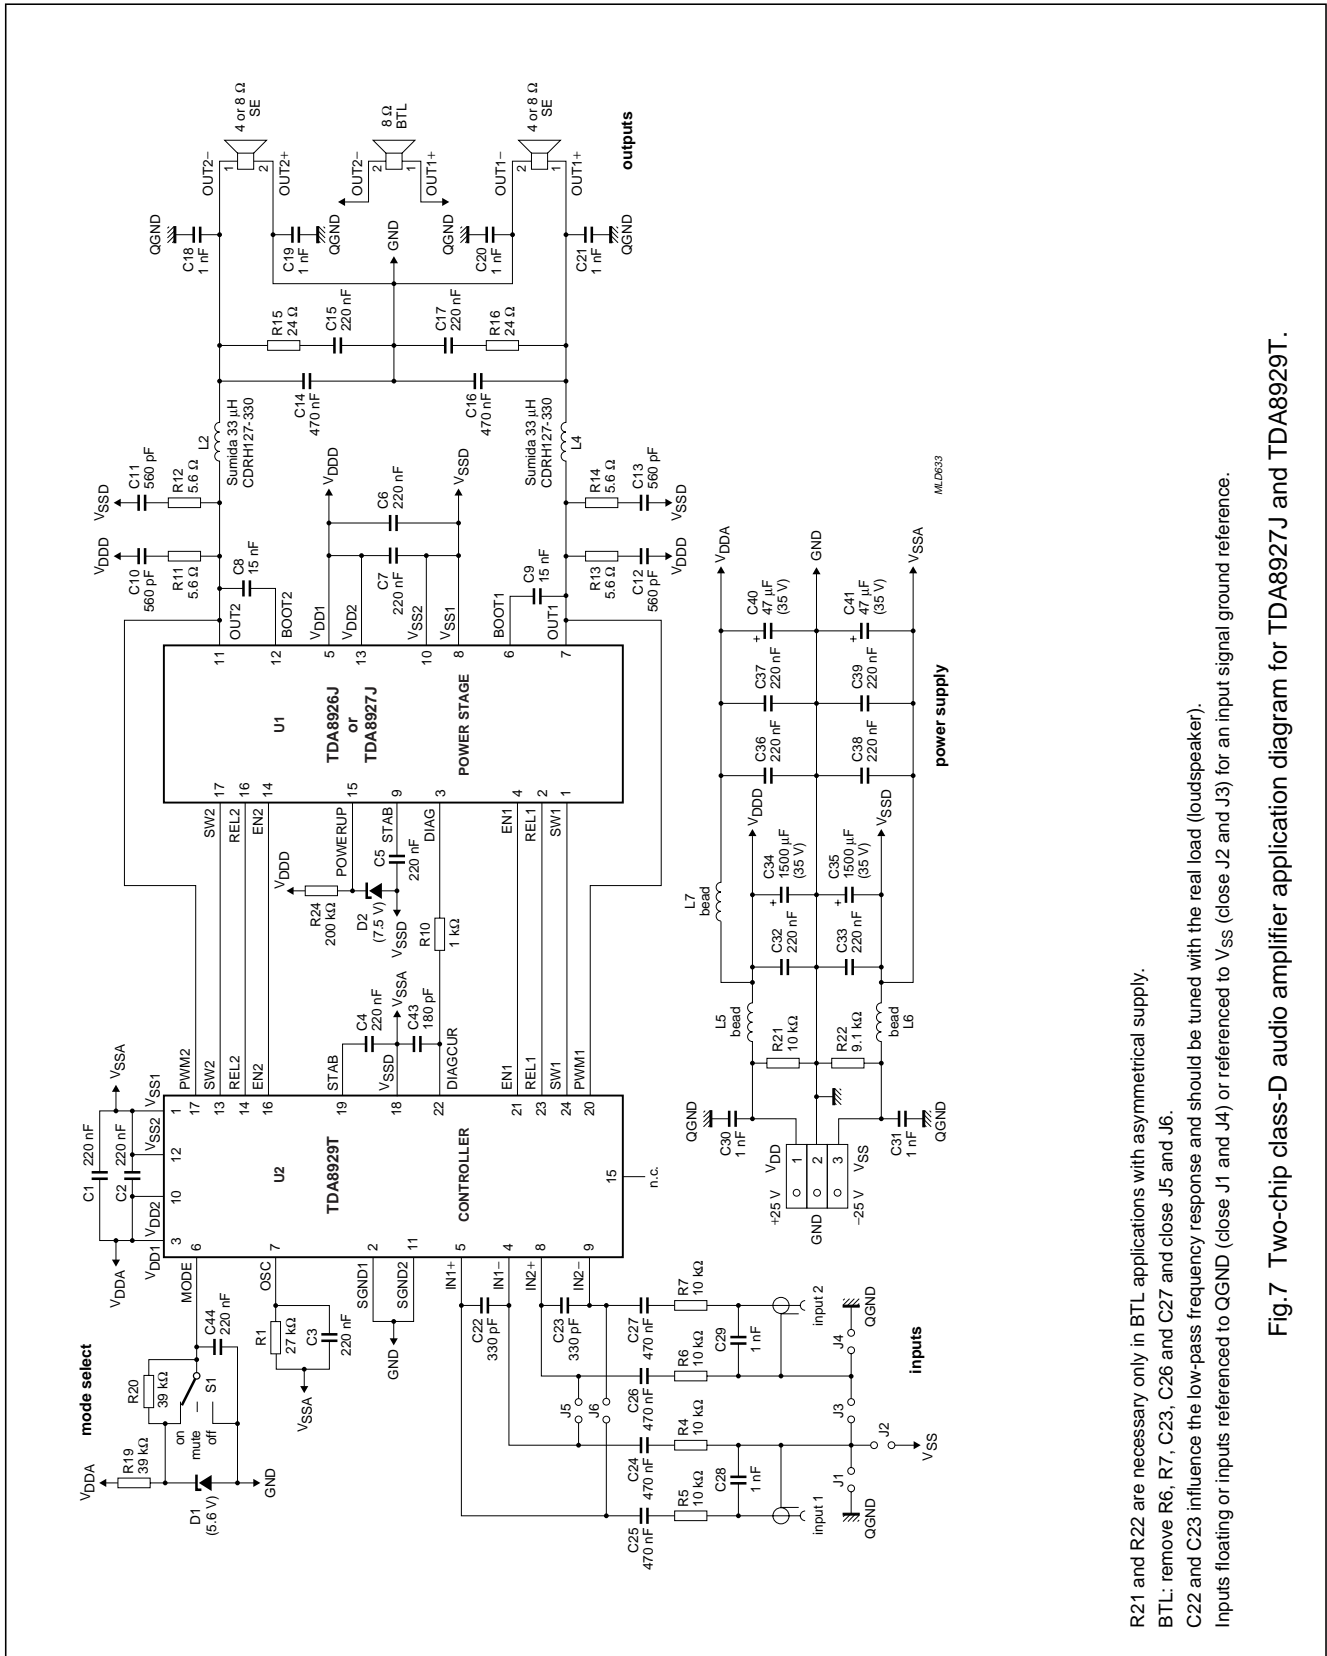
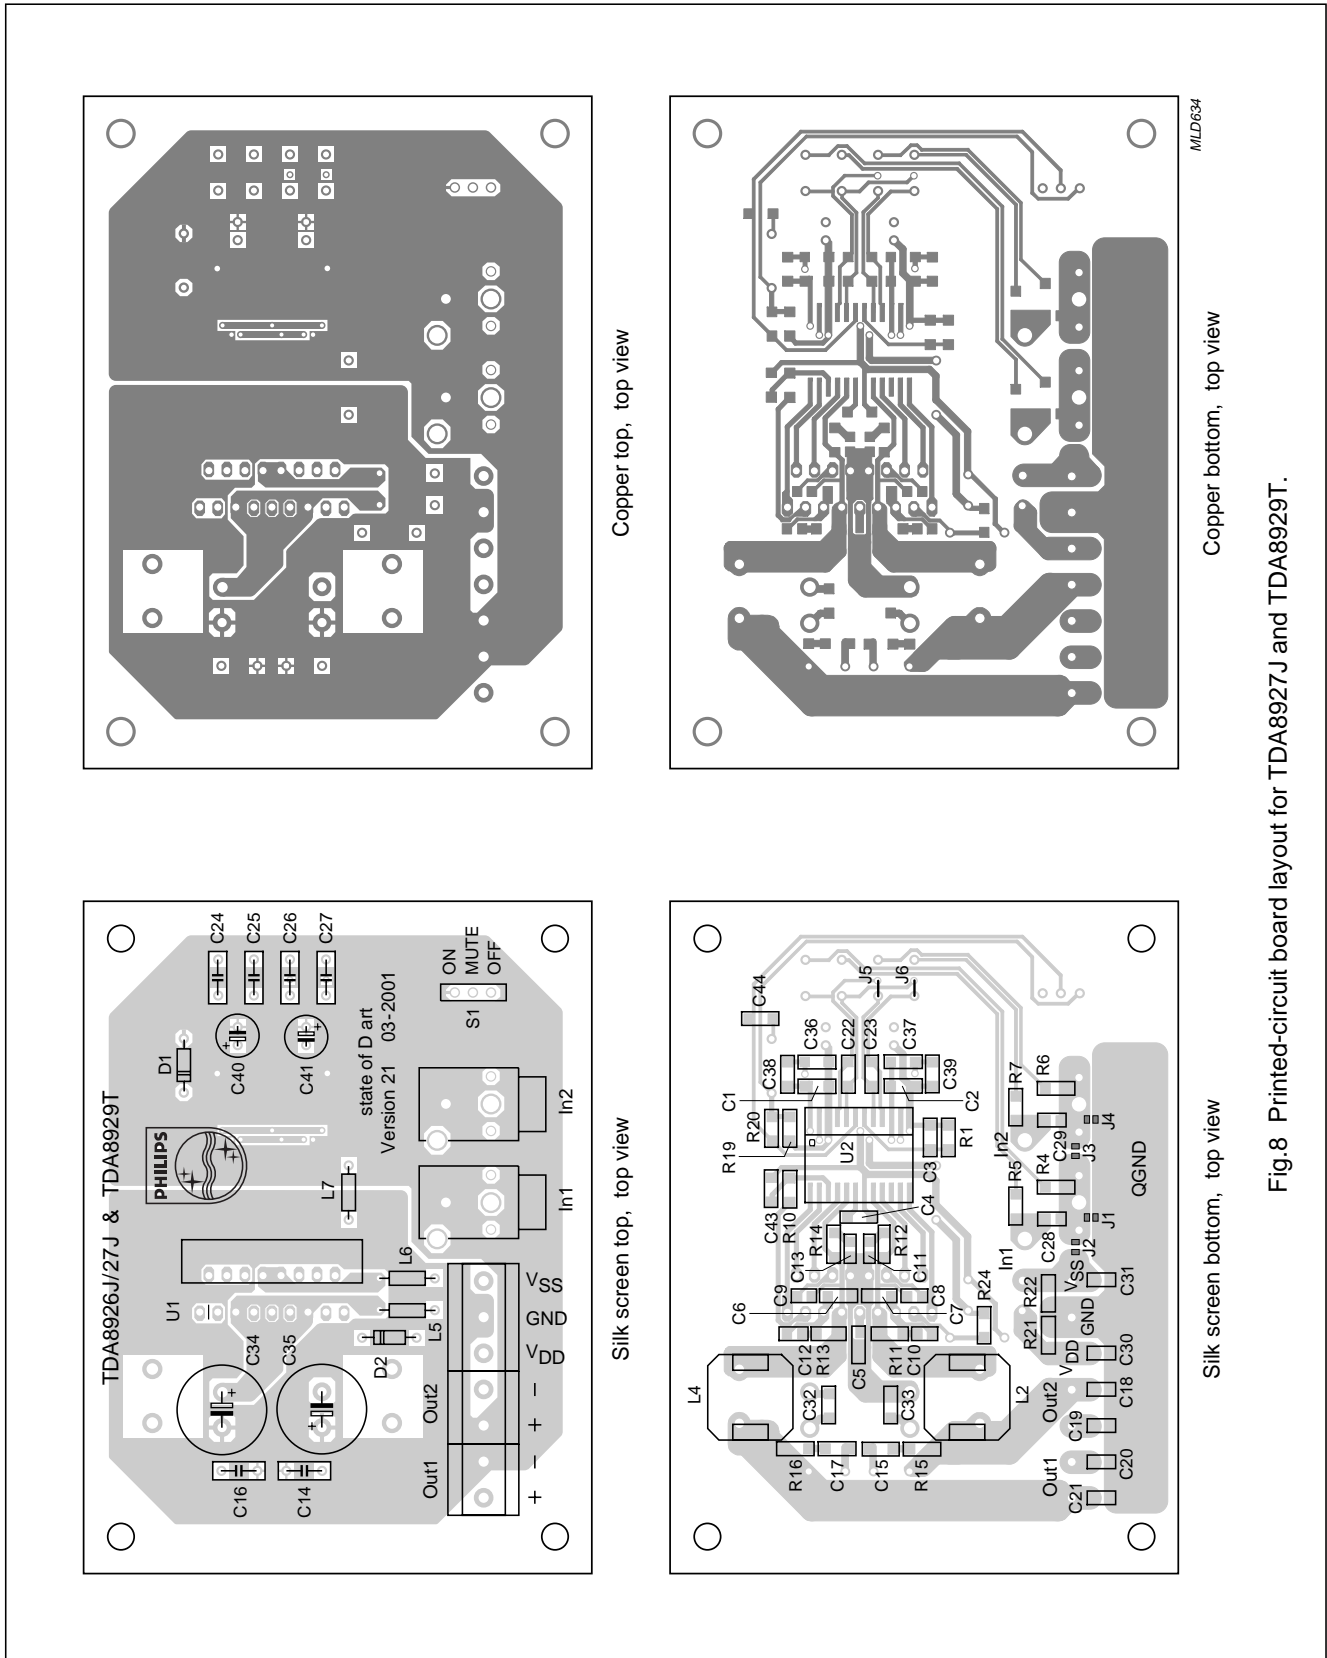

Fig. 7 Two-chip class-D audio amplifier application diagram for TDA8927J and TDA8929T.
Fig.8 Printed-circuit board layout for TDA8927J and TDA8929T.
- V_P = ±25 V; R_L = 4 Ω; f_i = 1 kHz; f_{osc} = 310 kHz; R_s = 0.1 Ω (series resistance of filter coil); T_{amb} = 25 °C; measured in reference design (SE application) shown in Fig.7; unless otherwise specified.
- V_P = ±25 V; R_L = 8 Ω; f_i = 1 kHz; f_{osc} = 310 kHz; R_s = 0.1 Ω (series resistance of filter coil); T_{amb} = 25 °C; measured in reference design (BTL application) shown in Fig.7; unless otherwise specified.
The reference design for a two-chip class-D audio amplifier for TDA8927J and TDA8929T is shown in Fig.7. The Printed-Circuit Board (PCB) layout is shown in Fig.8. The bill of materials is given in Table 1.
Table 1 Two-chip class-D audio amplifier PCB (Version 2.1; 03-2001) for TDA8927J and TDA8929T (see Figs 7 and 8)